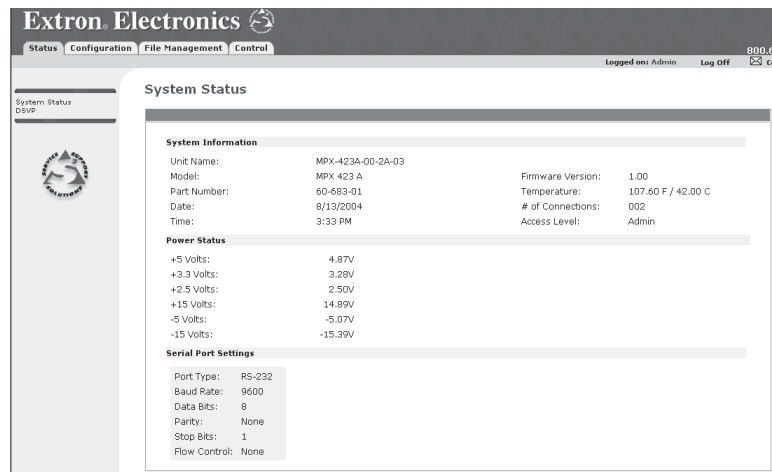

Figure 6-2 — System Status page
- c. **If neither of the above conditions is true**, the switcher downloads the factory-installed default start-up page, "nortxe_index.html" (figure 6-2), also known as the System Status page.
The System Status page (figure 6-2), is the default page of the on-board Web server, and provides an overall view of the status of the complete matrix switcher. It provides immediate system information, power status and serial port settings for the MPX unit.